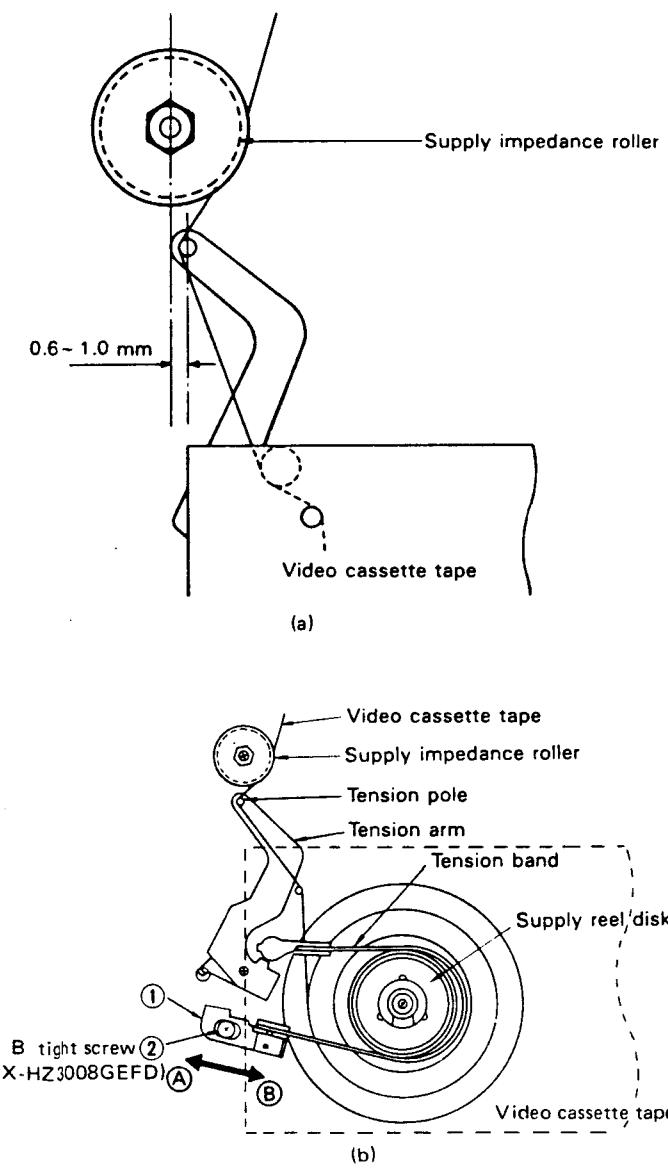

Figure 15.
1. If the tension pole is less than 0.6mm to the right of the supply impedance roller's center, shift the tension band control angle ① in the direction of arrow → (A) in Fig. 15(b), and tighten the screw ②.
2. If the tension pole is more than 1.0mm to the right to the supply impedance roller's center, shift the tension band angle ① in the direction of arrow → (B) in Fig. 15(b), and tighten the screw ②.